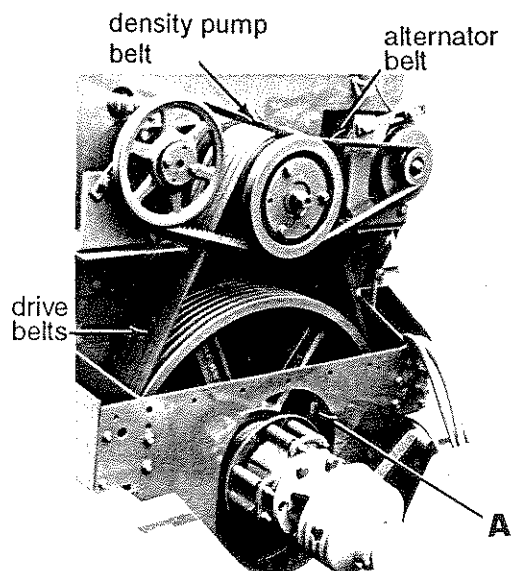
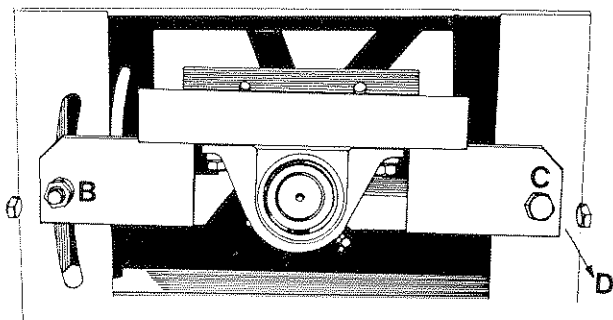

Fig. 65
Fig. 66
1. Adjust to obtain a 3/8" deflection when a 15 to 19 lb. force is applied at the center of the span length, see Fig. 65. Check each of the six drive belts separately.
2. If adjustment is necessary, loosen clamp bolts (A)
(front) and (B) (back) and pivot bolts (C) and (D), see Fig. 65 and Fig. 66.
3. Tighten (B), see Fig. 66.
6. Tighten clamp bolts (A) and (B) and pivot bolts (C) and (D), see Fig. 65 and Fig. 66.
force is applied at the center of the span length, see Fig. 65.